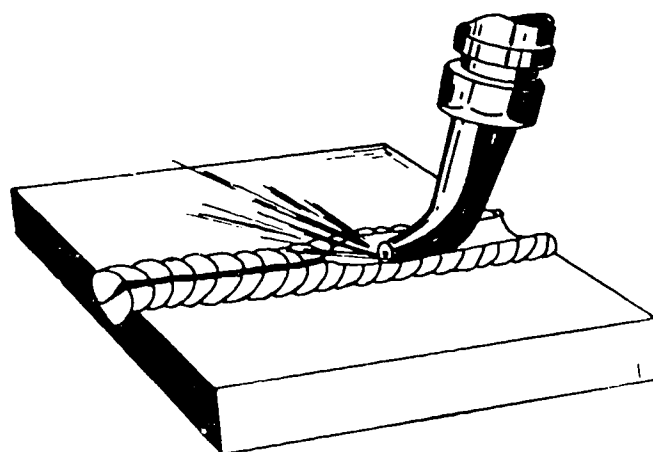

Figure 5-14. Flame gouging.
**Flame Gouging.** By flame gouging, you can quickly and accurately remove a narrow strip of surface metal from steel plate, forgings, and castings. Flame gouging differs from other flame cutting because the cut does not go all the way through the metal (fig. 5-14). By using a tip that deliver a relatively large jet of oxygen at low velocity and by properly controlling and